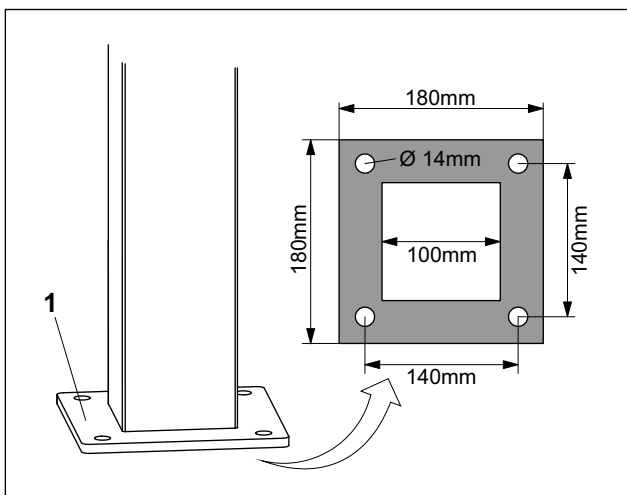

Fig. 2 Base plate of the column
1. Mark the four bore holes on the concrete foundation using the column's base plate (Fig. 2/1) as a template. Alternatively you can take the bore hole dimensions from the adjacent drawing.